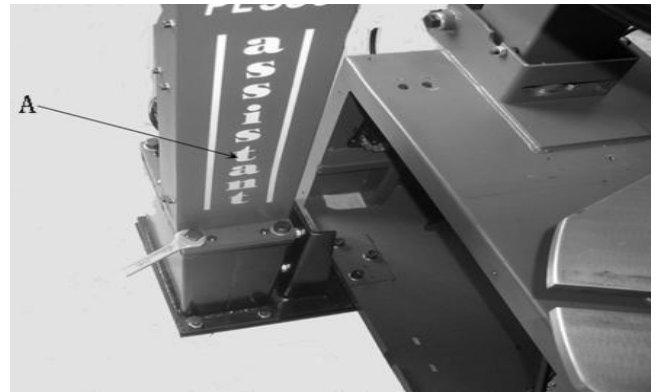

Fig 7-3
7.1.4 Place the main frame support (Fig7-3 A) on the base assembly Fig 7-3. Align and use the screw unscrewed before Fig (7-3) to fix. Remind not too tight.